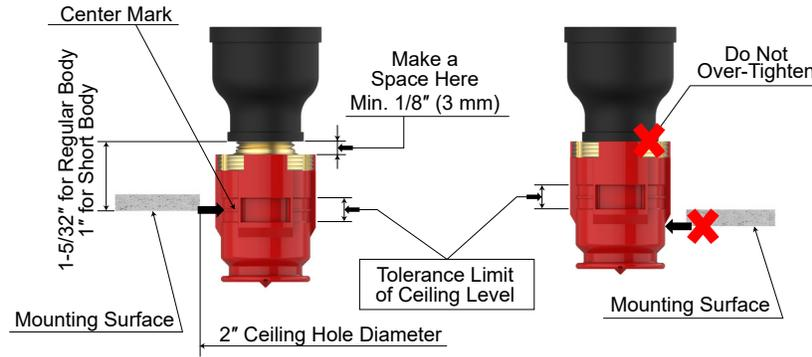

Figure 3: Installation
Step 2: Install the sprinkler fitting so that the distance from the face of the fitting to the mounting surface will be nominally 1-inch (25.0mm) for Short body and 1- 5/32 inch for Regular body as shown in Figure 3.
Step 5: Use the "tolerance limit of ceiling level" indicator on the Protective Cap to check for proper installation height (Ref. Figure 3). Relocate the sprinkler fitting as necessary. If desired the Protective Cap may also be used to locate the center of the clearance hole by gently pushing the ceiling material against the center point of the Cap.